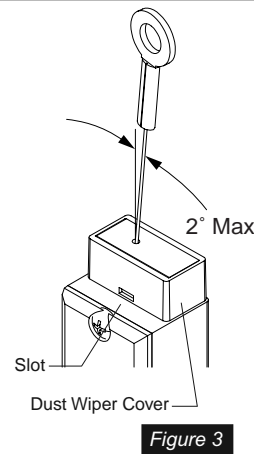

Figure 3
- To maximize wire rope life, align transducer with moving element so that wire rope exits parallel to axis of wire rope exit hole within 2° (see Figure 3).
The JX transducer contains wire rope dust wipers which are located just beneath the wire rope exit location. Periodic replacement of the dust wipers may be necessary depending upon the amount of dust in the operating environment. To access the dust wipers, remove the Dust Wiper Cover by placing a small blade screw driver into the slot as shown in Figure 3 and pry upward while squeezing the ends of the cover. The wipers may be removed with tweezers and cleaned or replaced. The replacement wiper kit which contains six pair of prelubricated wipers is UniMeasure part number 10198. To install replacement wipers, place a wiper into wiper opening on both sides of the wire rope. Press Dust Wiper Cover into place until detented.